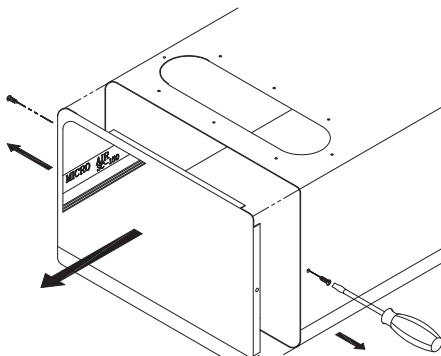

Fig. 1
2. Remove filter access door by removing the two phillips head screws as shown. Grasp the underside of the door offset and lift slightly to remove (Fig. 1).